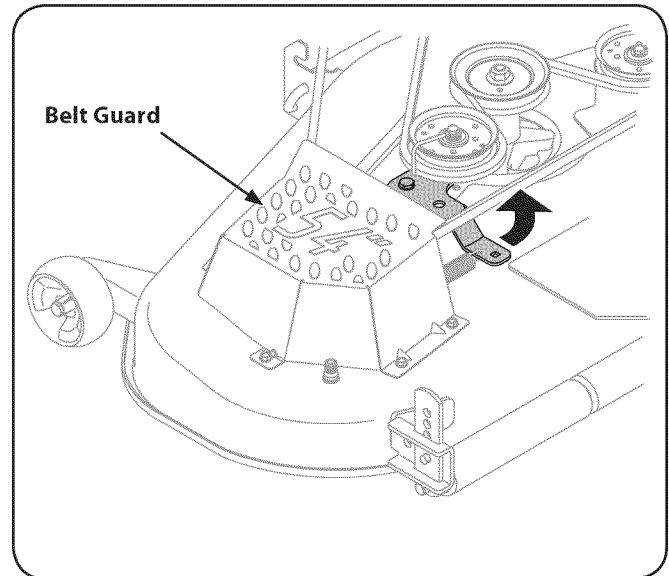

Figure 7-6
Note: If there is too much tension on the belt for it to be easily removed from the electric PTO clutch, carefully insert a $\frac{3}{8}$ -inch drive ratchet wrench (set to *loosen*) into the square hole found in the left-hand deck idler bracket and pivot it toward the tractor's right side to relieve tension on the belt. See Fig. 7-6.
3. Remove the belt guards by removing the self-tapping screws that fasten them to the deck. See Fig. 7-6.